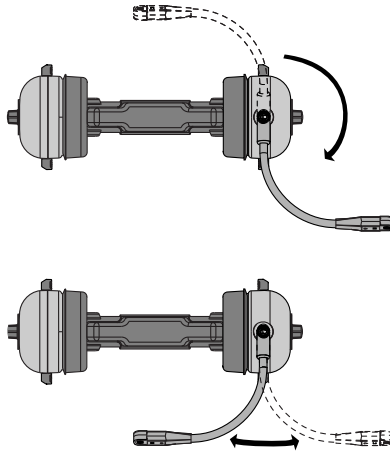

FIGURE 4. Rotating and Reshaping the Boom
1. Rotate the **boom**, as shown in Figure 4.